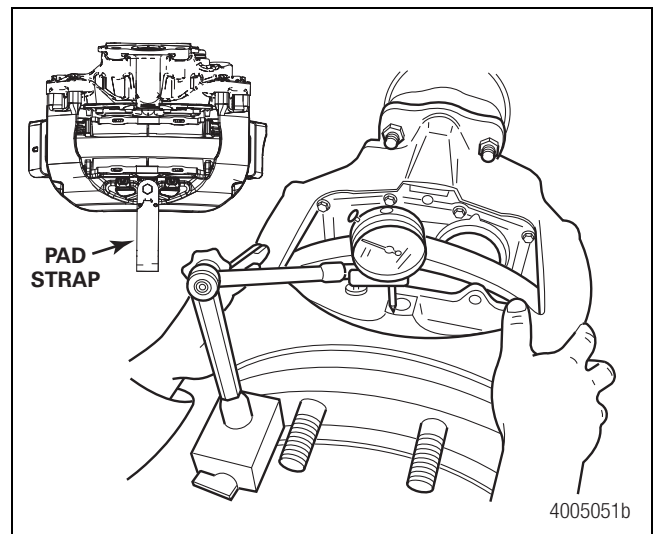

Figure 5.22
1. Loosen the pad strap and reposition it 180 degrees from the installed position. Retighten the pad strap bolt to 20 lb-ft (27 N•m) so that the strap does not move. Figure 5.22.
3. Attach a dial indicator onto the vehicle hub and set it against the caliper. Figure 5.22.